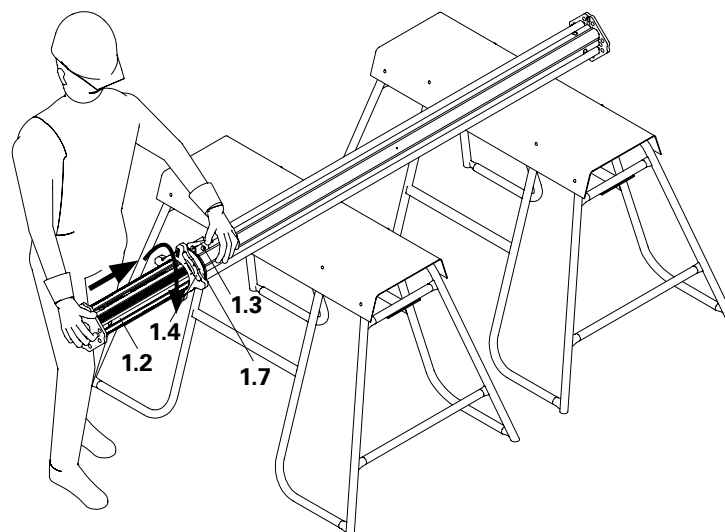

Fig. A1.02
4. Push in the inner tube until the adjusting collar lies against the rubbing plate (1.7). (Fig. A1.02)